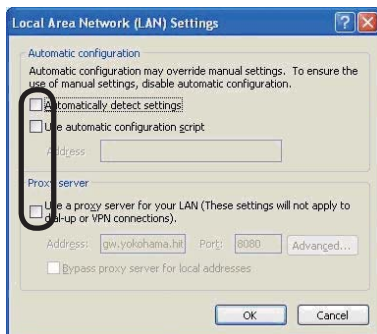

Fig. 2.3.3.c “Local Area Network (LAN) Settings” window
3) Uncheck all boxes in “Local Area Network (LAN) Settings” window. (Fig. 2.3.3.c)